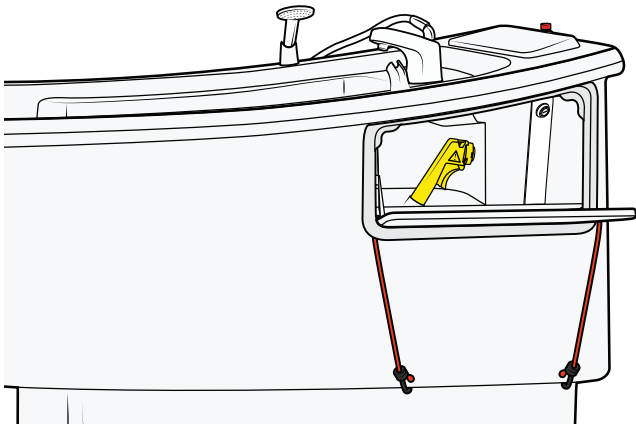

Figure 99
2. Strap the disinfection hatch open to avoid scratching the inner covers, if equipped. See Figure 99.
9. Go back to the head end, remove the two nuts (C), holding the outer cover. See Figure 99.